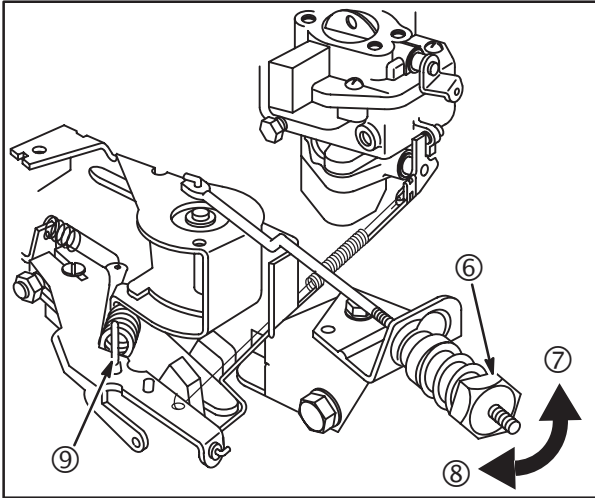

Fig. 37
NOTE: Be sure the governor spring is installed in #1 hole in governor lever (9), **Fig. 37**.
5. Turn fixed speed adjustable control nut (6) clockwise (8) to increase or counter-clockwise (7) to decrease engine speed until desired Top No-Load RPM is obtained, **Fig. 37**.